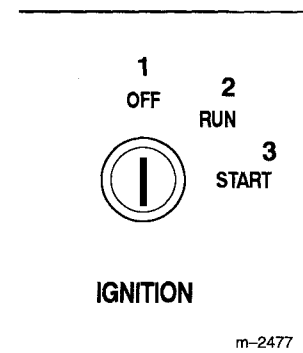

Figure 6
6. Turn the ignition key clockwise and hold it in the "START" position (Fig. 6). When the engine starts, release the key.
2. Turn the ignition key to "OFF" (Fig. 6).